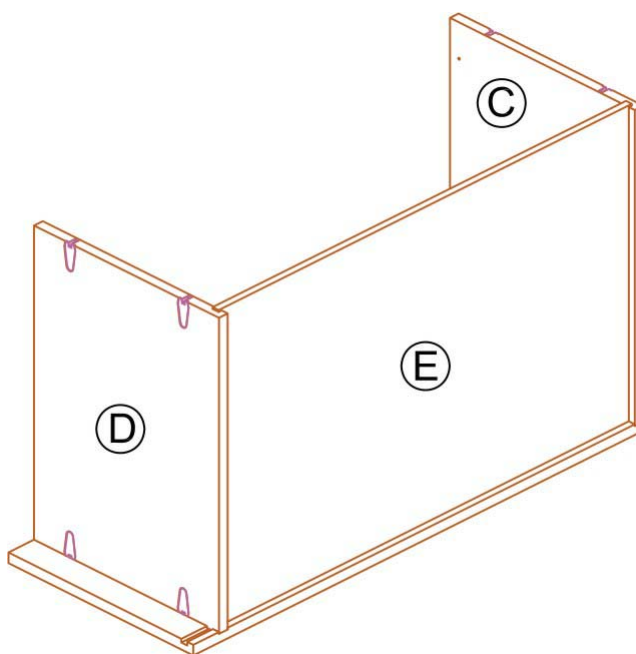

Figure 4
6. Locate back panel E and slide panel into panel grooves as shown in **(Figure 4)**.